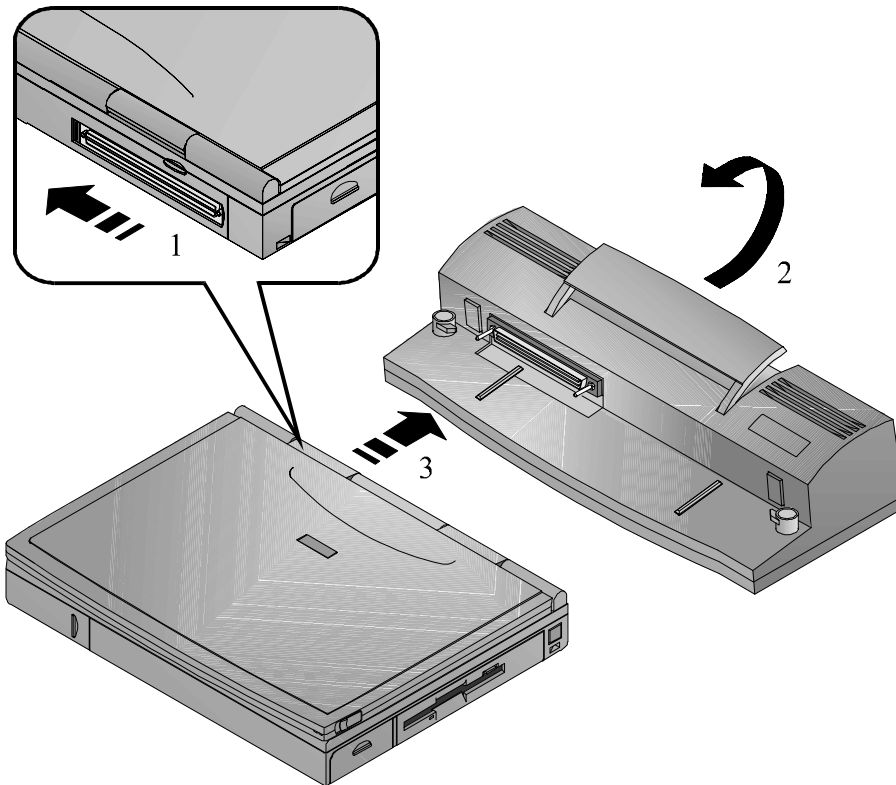
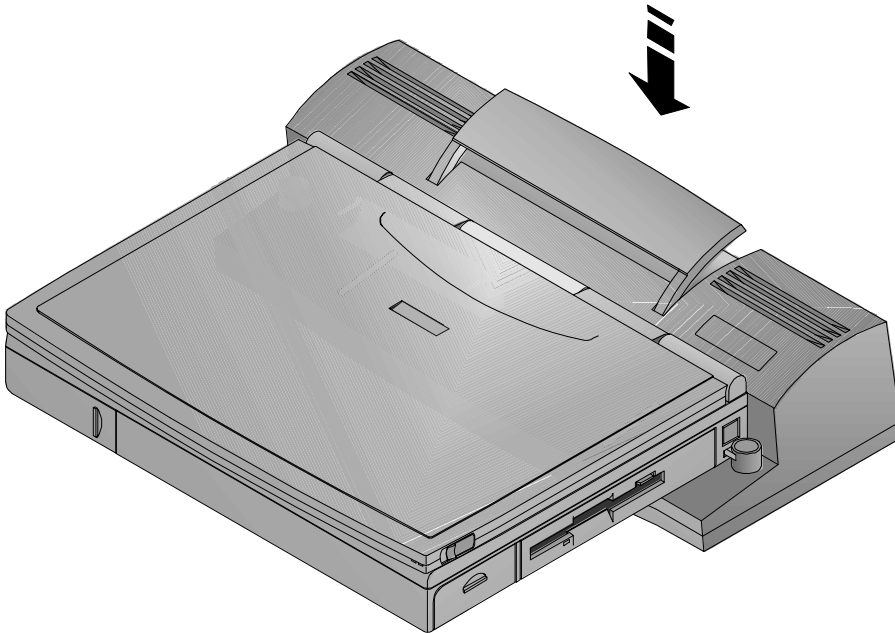

Figure 6-14: Connecting the Notebook to the Minidock
Figure 6-15: Securing the Notebook to the Minidock
You may want to refer to Figure 6-14 and Figure 6-15 as you read these instructions for a visual guide to connecting the notebook to the Minidock
1. Locate the Minidock's 240-pin port found on the front left side of the Minidock. Find the 240-pinned connector on the rear side of the notebook. It is concealed by a plastic door. Slide the door to the left until it clicks into its open position. (Figure 6-14, step 1)
2. Raise the long rectangular-shaped Release latch on the Minidock in the direction of the arrow (Figure 6-14, step 2).
3. Notice that there is one rail on the left of the docking platform and one on the right. These rails correspond with two grooves on the bottom side of the notebook computer. Place the notebook on the Minidock's docking platform, aligning the rails with the grooves (Figure 6-14, step 3).
5. Once you are confident that you have a firm connection, lower the Release latch back to its original position. This will secure the Minidock to notebook connection. (Figure 6-15)